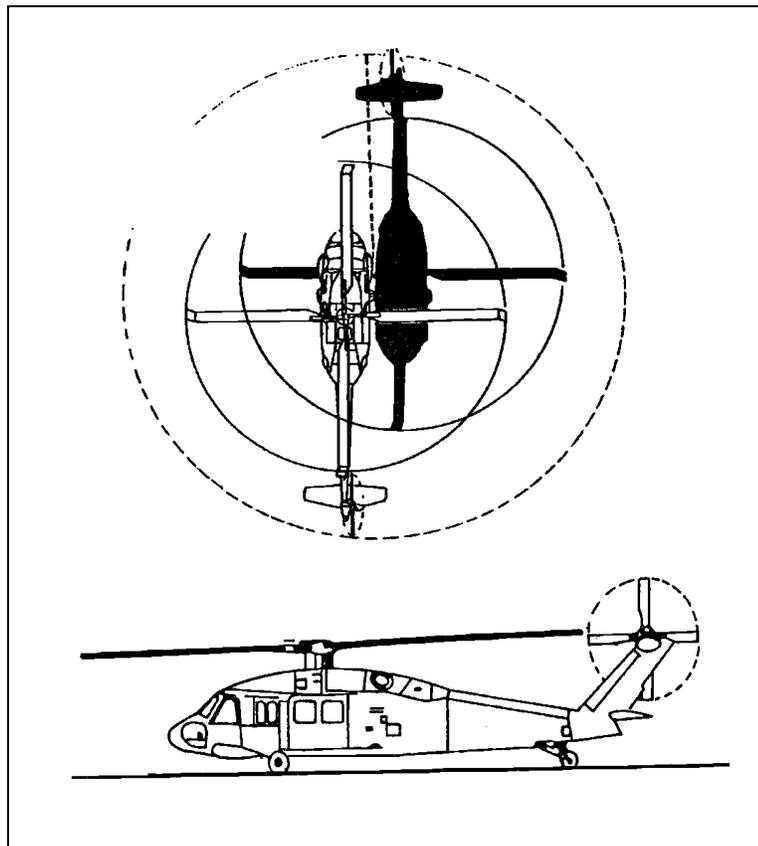

**Figure B-5. UH-1H (Iroquois).**
a. **UH-1H Iroquois.** Table B-5 shows specifications for the Iroquois; Figure B-5 shows the aircraft from three angles: